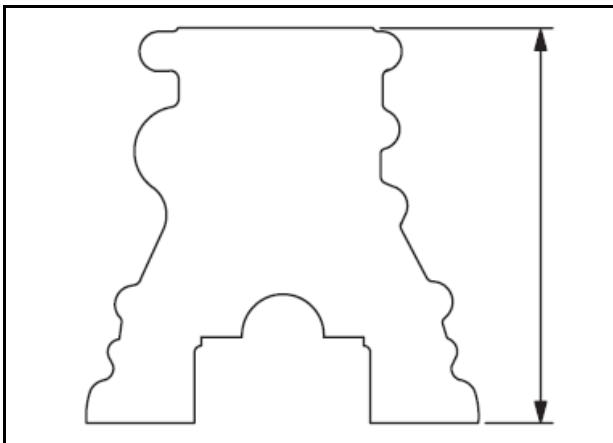

Fig.2-Cylinder Block Height
2. If cylinder block exceeds limit shown, it may be resurfaced, Fig.2.